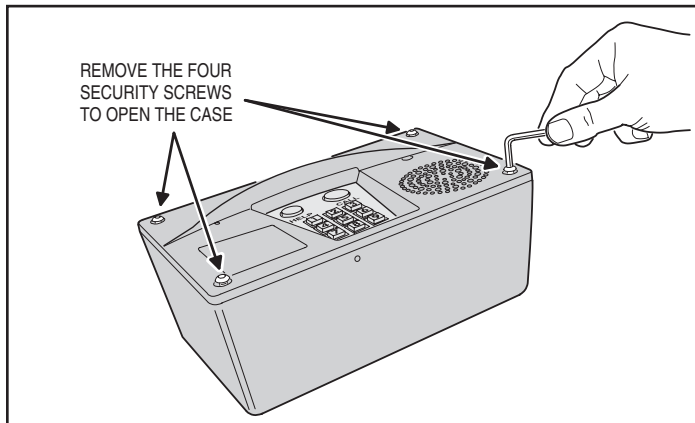

Figure 1. Opening the RE-2 Case
1. Open the RE-2 case by removing the four security screws with the wrench provided (see Figure 1).